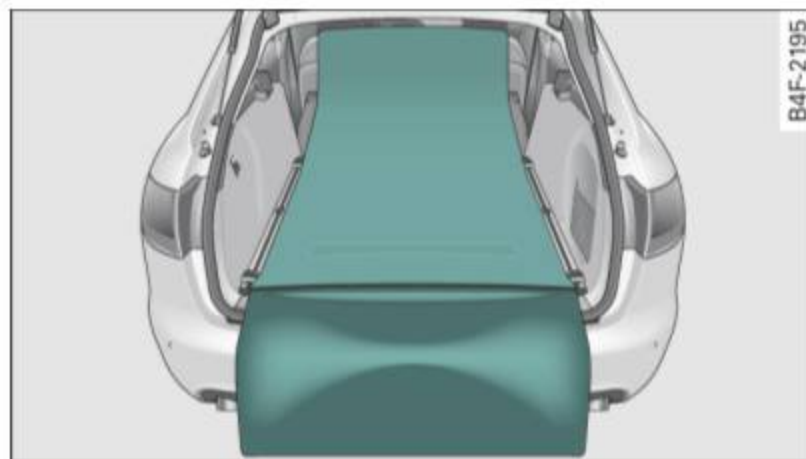

Fig. 89 Luggage compartment carpeting with seatback folded down: spread out over the bumper
- Lay the luggage compartment carpeting ⇒ fig. 89 over the folded-down seatback.